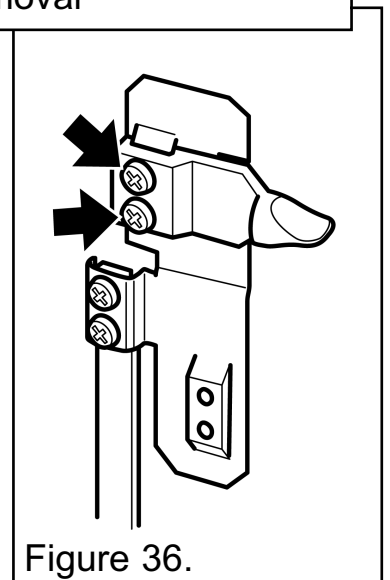

Figure 36.
3. Detach the control slide button from the extension bracket by removing two screws (See figure 36).